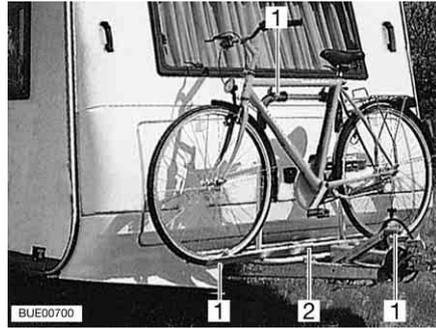

Fig. 13 Front bike rack
- Put the bikes on to the bike rack (Fig. 13,2) and secure them with quick straps (Fig. 13,1).